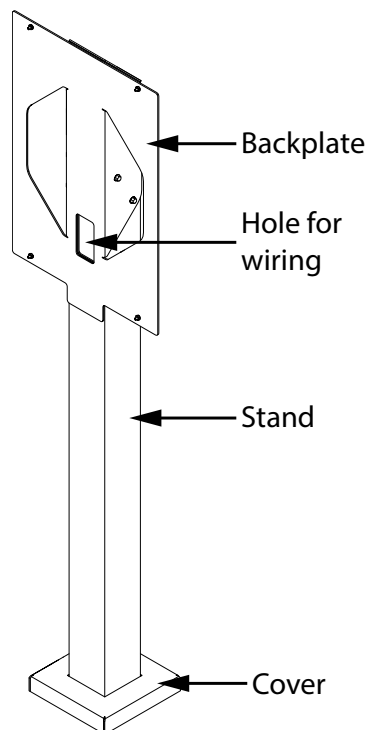

Figure 1. TX3-T-PEDESTAL-B-WR components
4. Run the wires through the stand to the hole at the top (see figure 1).